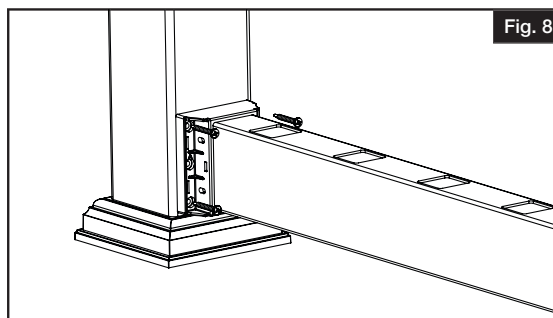

Fig. 8
- Drive the first #10 x 1 1/2" screw through bottom bracket into post (Fig. 8).